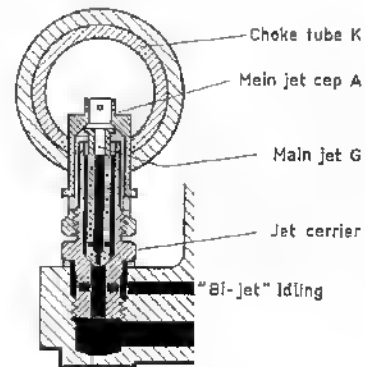

Fig. 24 Assembly No. 8
With an independant idling system the fuel for idling is taken before it passes through the main jet (see fig. 24). In this case the idling system is completely independent and under normal operation always affects the formation of the mixture, therefore very careful adjustment of idling setting is required. This is known as the "bi-jet" system.
**b) Jet Assembly No. 8 (fig. 24)**